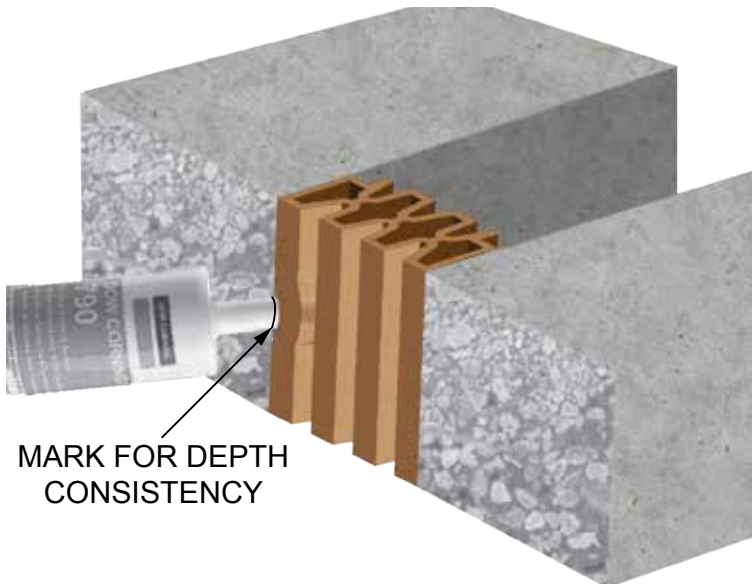

Figure 6—Silicone Application into a Smooth Joint
5. Insert the tip of the silicone sealant tube between the seal and the substrate to the midpoint of the seal thickness (Figure 6).